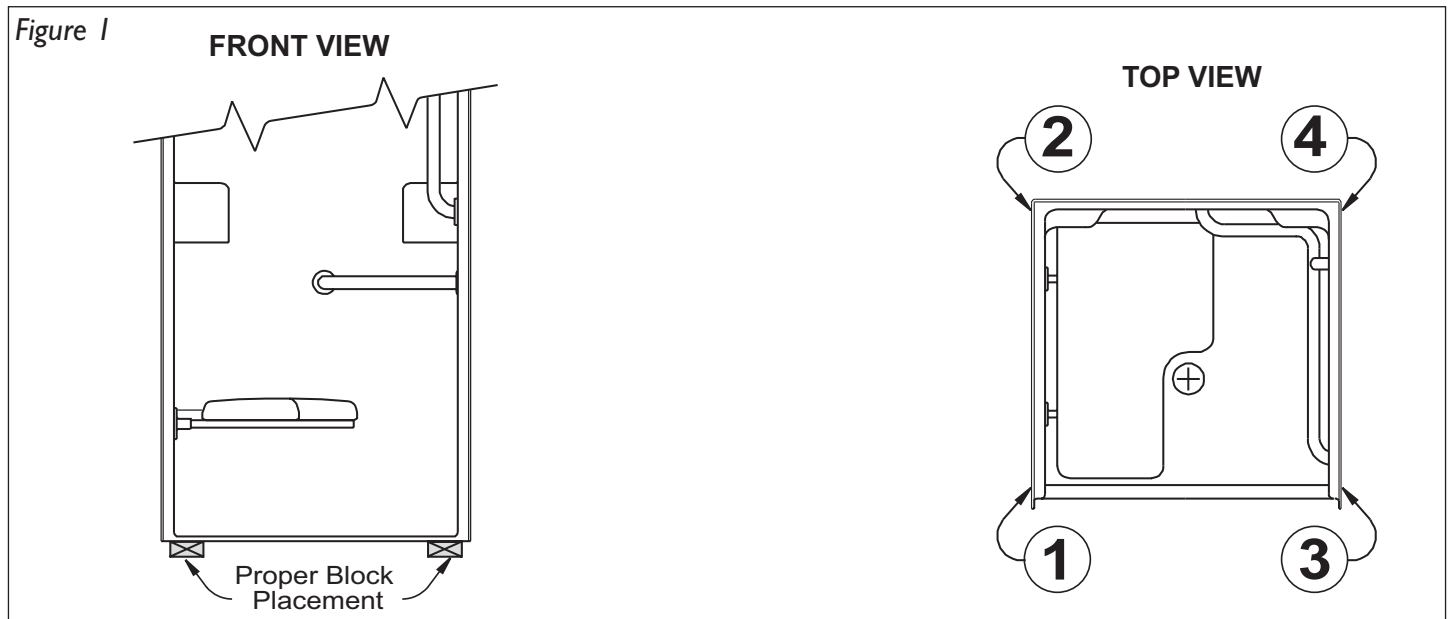

Figure 2
**RECESS INSTALLATION** See Figure 2
This diagram illustrates a typical installation for showers that do not require recessed installation to comply with ADA guidelines. This style shower is illustrated in Figure 2. They are for 36" x 36" inside dimension showers with vertical thresholds no higher than 1/2".